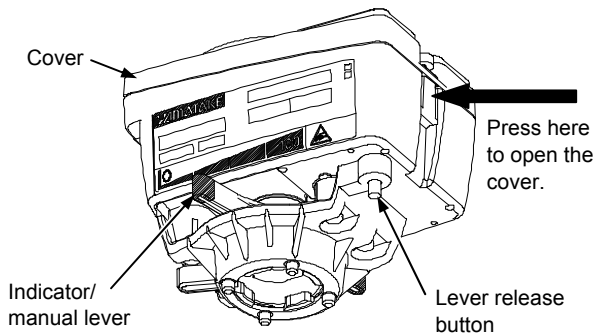

Figure 6. Cover removal
- 1) Open the cover by pressing the area where Fig. 6 shows.